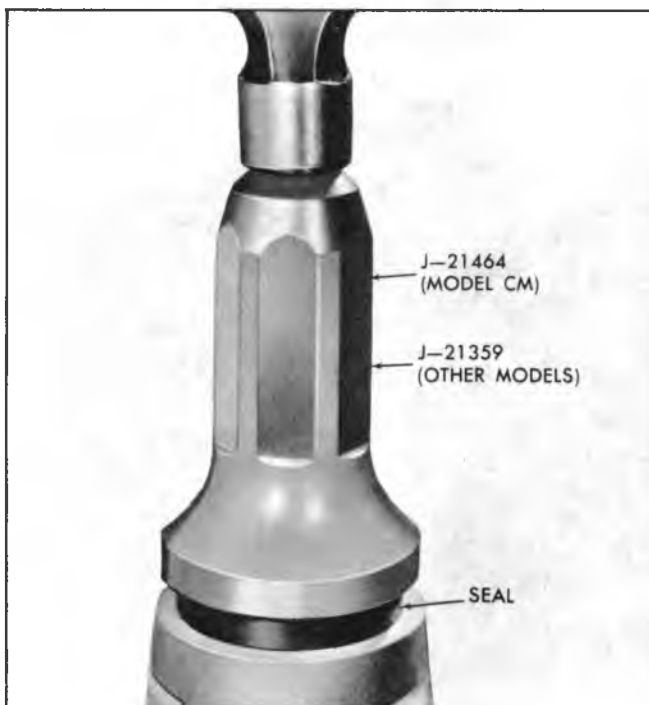

Fig. 140T--Installing Extension Oil Seal (Typical)
- a. All models except "CM"--Use a non-hardening sealer on outside of seal body; and using Tool J-21359, drive seal in place (fig. 140T).
- b. Model "CM"--Use a non-hardening sealer on outside of seal body; and using Tool J-21464, drive seal in place (fig. 140T).